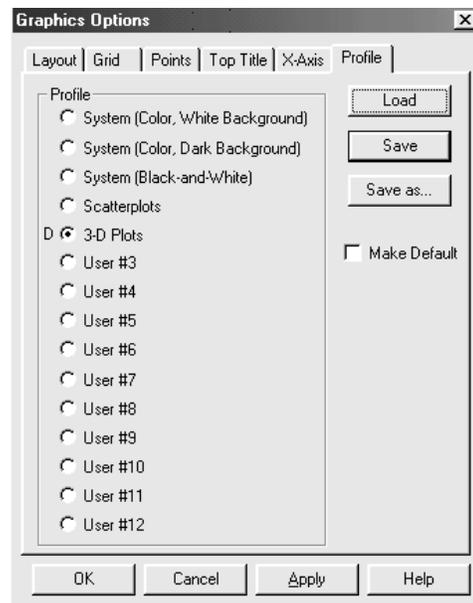

Figure 5-11. Profile Dialog Box with Two User Profiles
7. Repeat Steps 4, 5, and 6, using *3-D Plots* as the name for the User #2 option. When you click OK, names are displayed on the Profile tab page as the names for the two user options (see Figure 5-11).